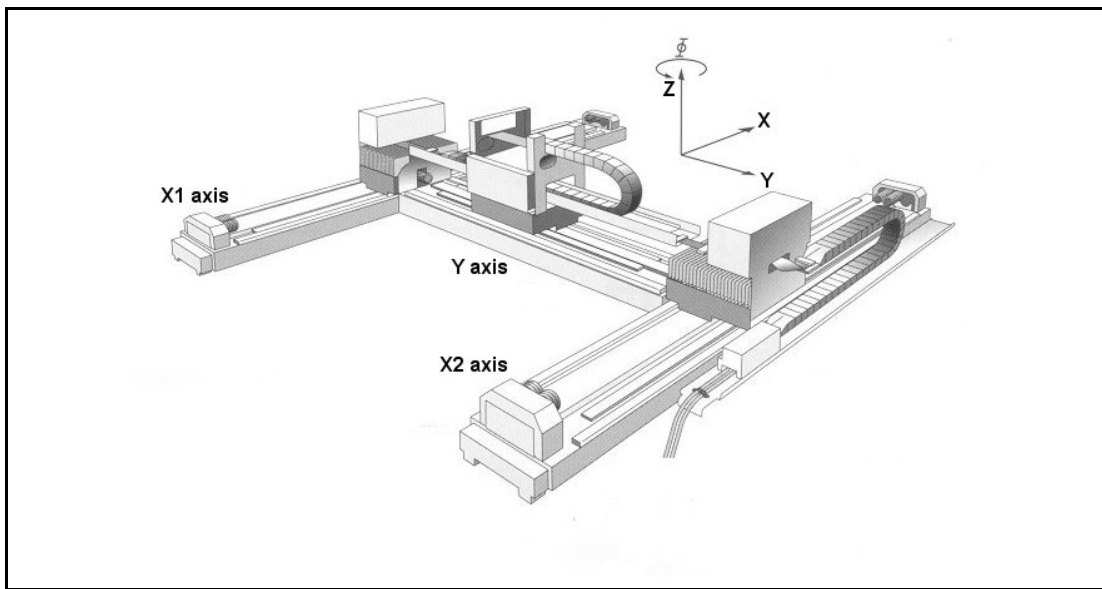

Figure 51 Typical Gantry
Figure 51 illustrates a typical gantry system with two motors (X1, X2) that move a single axis (X):